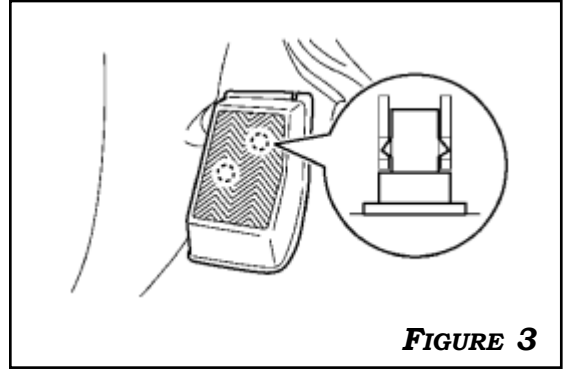

FIGURE 3
3. DISENGAGE THE 2 CLIPS TO REMOVE THE FRONT DRIVER SIDE FLOOR FOOTREST. **FIGURE 3**